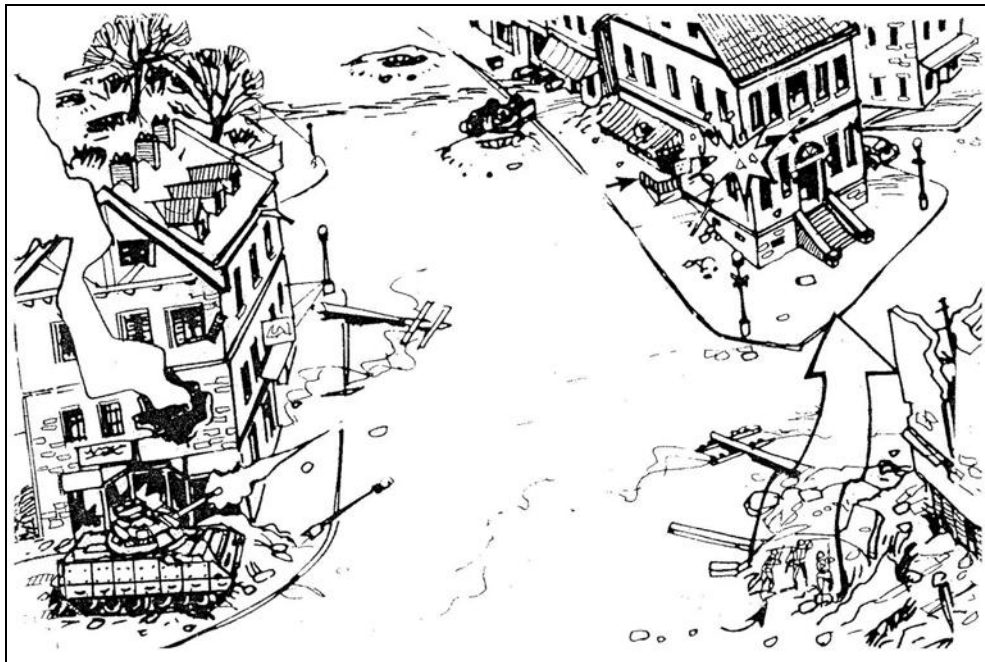

Figure E-5. Support by the 25-mm gun for the dismantled element.
(1) *Weapons.* The BFV's mounted element provides fire (with its 25-mm gun and 7.62-mm coax machine gun) for the dismantled element on the opposite side of the street. The 25-mm gun is the most effective weapon on the BFV for UO (Figure E-5).